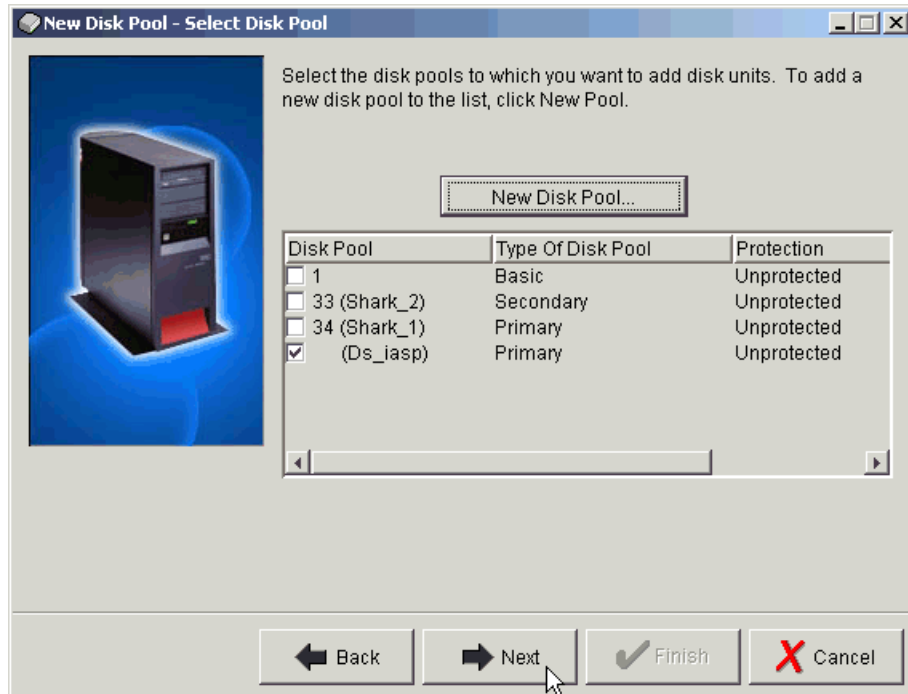

Figure B-13 Confirm disk pool configuration
8. A confirmation panel like that shown in Figure B-13 will appear to summarize the disk pool configuration. Select **Next** to continue.